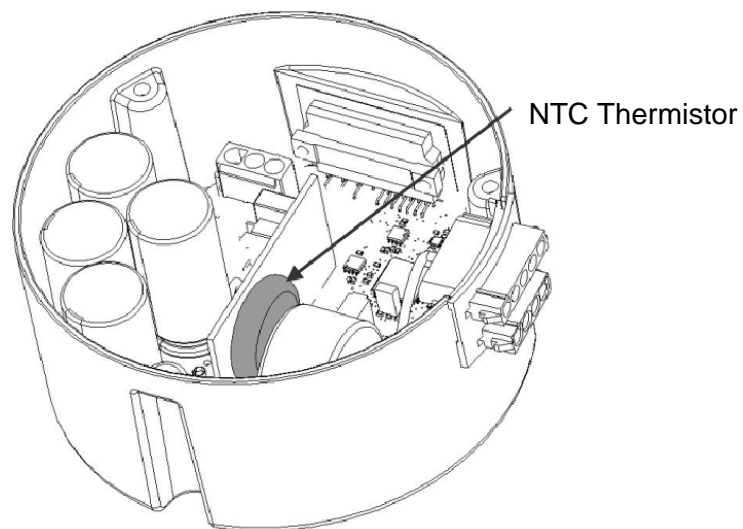

Figure 9
4. Inspect the NTC thermistor inside of control unit for any cracks or breakage [Figure 9].